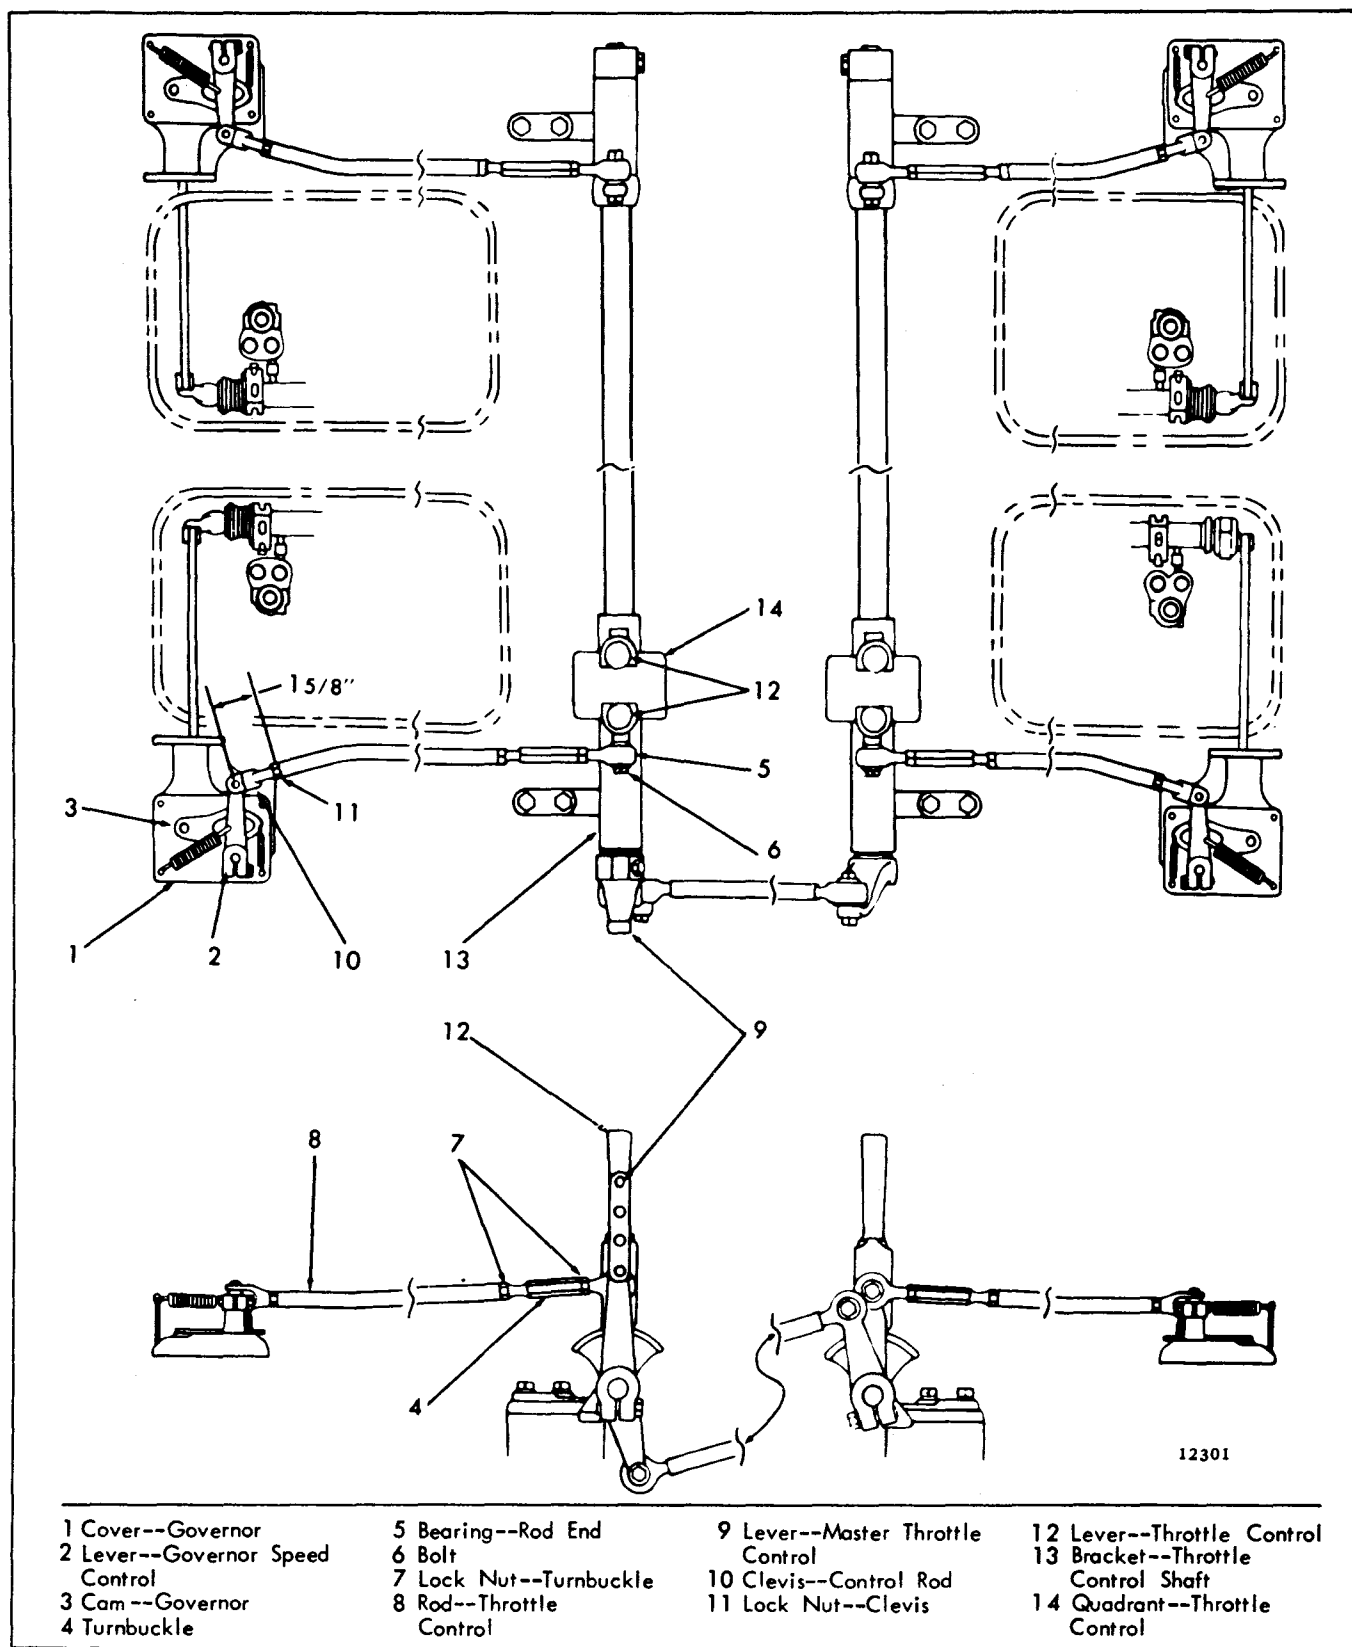
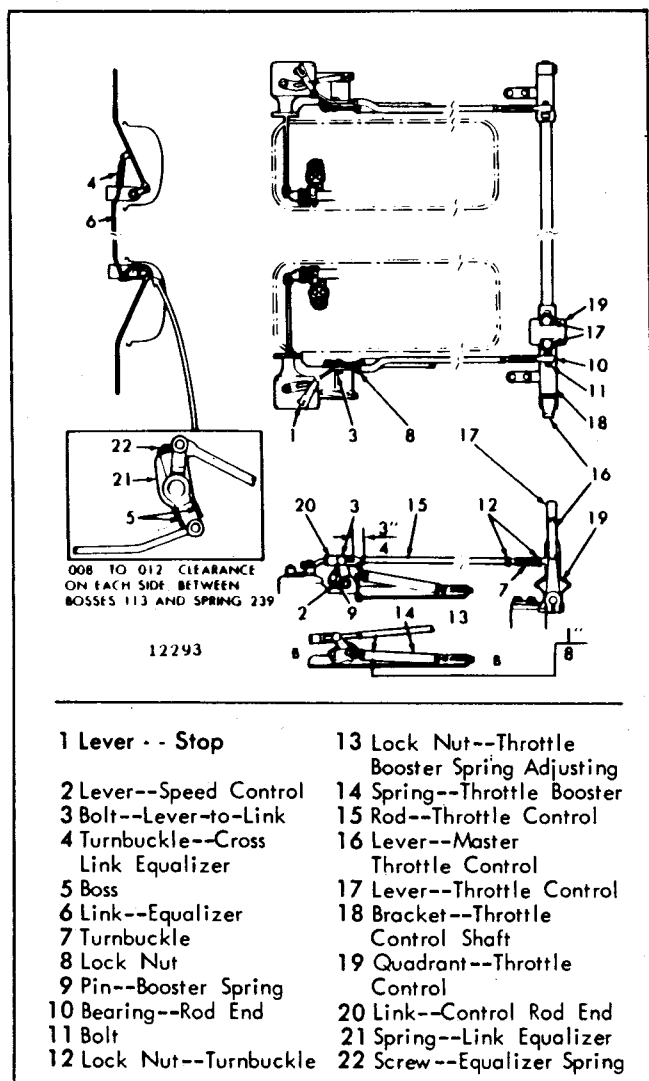

Fig. 2 - Diagram of Throttle Control Linkage for Quad Units with Limiting Speed Mechanical Governors
Fig. 1 - Diagram of Throttle Control Linkage
5. If the governor speed control lever is not in the maximum speed position, loosen the two lock nuts (7) and adjust the turnbuckles (4), Figs. 2 and 3.
- NOTE:** Use care when tightening the lock nuts to prevent misalignment of the rod end bearings (5), Figs. 2 and 3.
Disconnect the control rods (15) from the governor speed control levers (2). On the side-by-side twin units, remove the cross link equalizer spring (21) from the cross link (6), Fig. 1. Loosen the screw (27) and remove the master control equalizer spring (3), Fig. 2,
1. Check the control rod end link (20), Fig. 1, on each engine. Make sure the bolt (3) is just touching the end of the link in the idle position.
3. Move the master throttle control lever (16), Figs. 1 and 2, to the maximum speed position.
4. Make sure the governor speed control lever (2) is in the maximum speed position. The pin in the stop lever (1) must be in contact with the end of the slot in the governor cam (Fig. 1).
5. If the governor speed control lever is not in the maximum speed position, loosen the two lock nuts (12) and adjust the turnbuckles.
to prevent misalignment of the rod end bearings (10), Fig. 1.
- Set the governor booster spring pin (9) 1/8" below the over-center line B-B (Fig. 1).
- Release each governor speed control lever (1) individually from its maximum speed position and note its return to the idle position. The lever should return quickly.
- Loosen the throttle booster spring retaining nut on the governor control lever (2). Then loosen the nut and lock nut on the throttle booster spring eyebolt.
- Move the bolt as necessary in the slot of the lever to allow the speed control lever (2) to move from the maximum speed position to the idle position. Hold the bolt and tighten the spring retaining nut.
7. Reconnect the throttle control rods (15) to the levers.
8. Set the gap between the end of link (20) and governor control lever (2) at 1/16" to 1/8" by adjusting the lever on its shaft. While setting the gap, the governor lever must be in the idle position and the forward end of the slot in link (20) must be in contact with the lever-to-link bolt (3).
9. Secure the master throttle control lever (16) in the maximum speed position, then replace the link equalizer spring (21) and secure it with the screw (22).
10. Loosen the turnbuckle lock nuts (12).